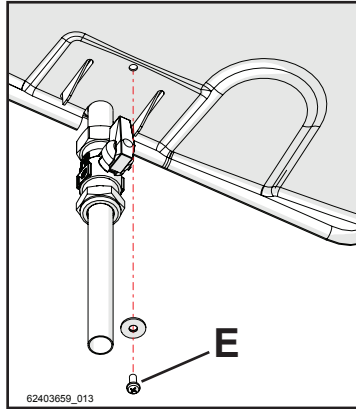

Figure 5-45
- 8 - Lock the cover using clamping screw "E", as shown in figure 5-45;
- 1 - Remove the fixing screw "E" in figure 5-45;